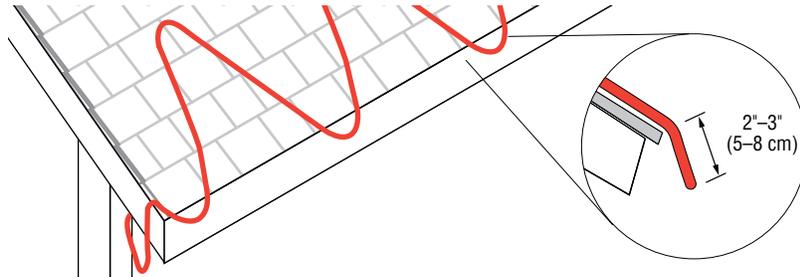

Figure 1.6 Layout for heated drip loops.
Route the heating cable as shown in Figure 1.6 below and follow the appropriate attachment recommendations in Step 2. Additional heating cable may be needed for valleys.
- The drip loop must hang below the lip of the roof as shown in Figure 1.6.